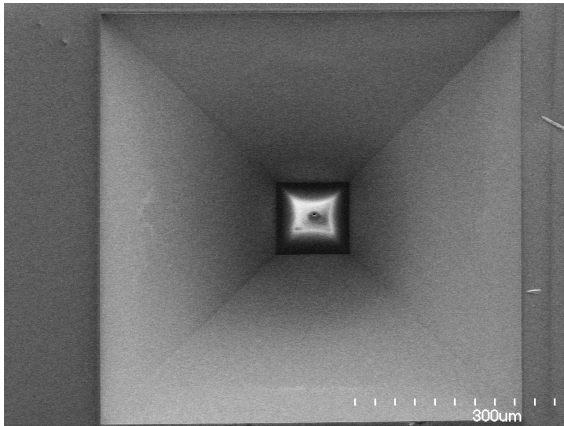

Figure 1: SEM of the backside of the chip showing the well and FIB cut.
- The microhole can be located on the backside of the substrate at the bottom of the well (Figure 1).